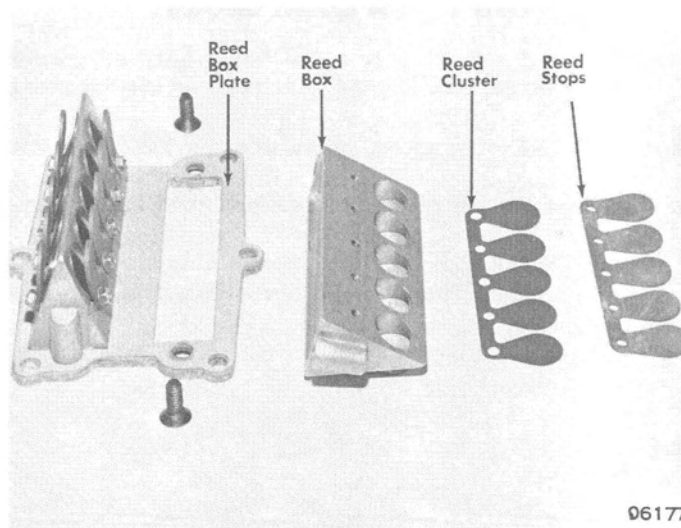

Figure 1. Reed Box and Reed Box Plate
11. Separate reed box from reed box plate. (Figure 1)